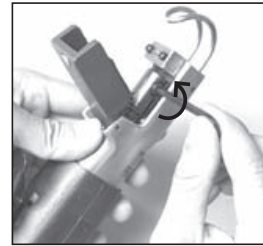

Figure 3
- (3) Loosen the two set screws (Part #46) on both sides with the provided hex key. (See Figure 3)